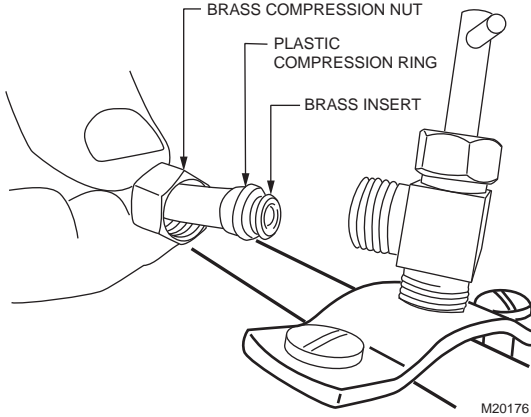

Fig. 7. Installing feed tubing.
3. Use 1/4 in. (6 mm) OD tubing and connect the saddle valve to the inlet side of the solenoid valve on the humidifier (see Fig. 7).